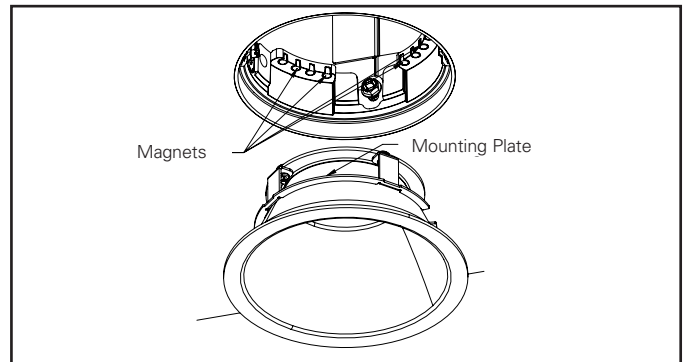

Figure 20.
6. Align mounting plates with magnets and place trim against ceiling (Figure 20).